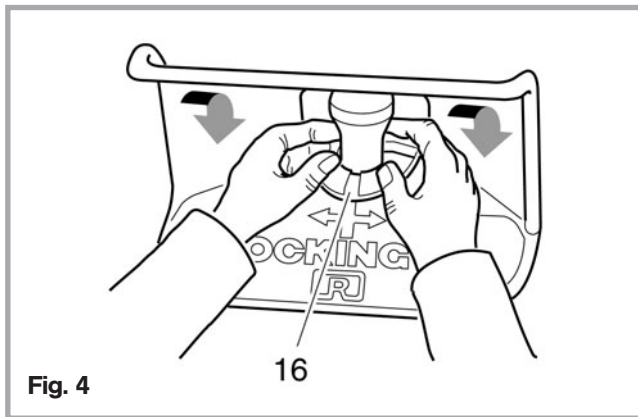

Fig. 4
- Dismantle hand lever (9)
- Clamp bearing washers (13) with suitable assembling tool (see illustration) on left and right
- Remove circlip (11) with circlip pliers **A1**
- Insert new circlip (18 x 1,5) into the groove (12)
- Knock hand lever axle (10) through carefully
- Dismount spacer (D)
- Remove circlip (14) with circlip pliers **A1**
5. Replacement of the support ring (see fig. 4, 5)